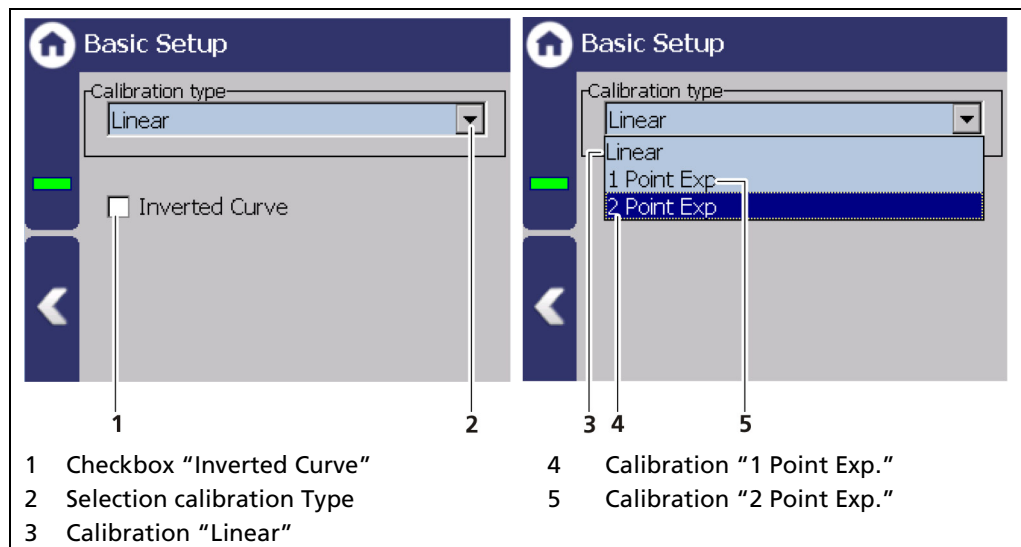

Fig. 74 Basic Setup
Inverted Curve	If the check box "Inverted curve" (Fig. 74, item1) is activated, the monotony criterion of the validation changes is strictly ascending.